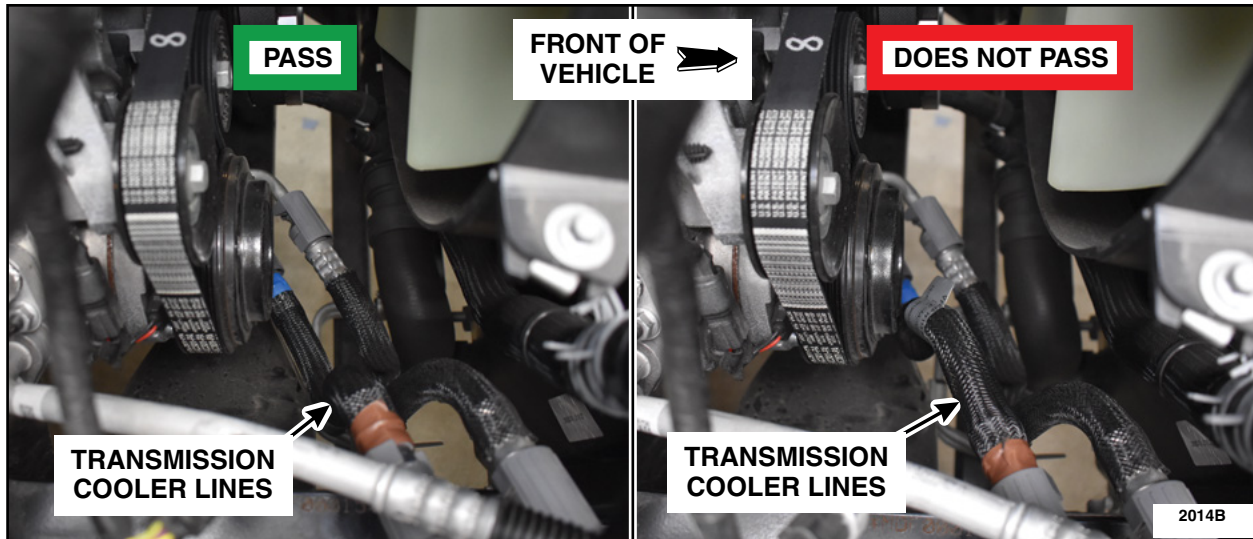

FIGURE 2
3. While standing on passenger side of vehicle, inspect the left hand (LH) transmission cooler line for correct orientation. The transmission cooler line when installed correctly will mirror the right hand (RH) side transmission cooler line. See Figure 2. If LH side transmission cooler line is not in correct orientation, it will be at risk of being too close to A/C compressor pulley. Is the transmission cooler line in the correct orientation?